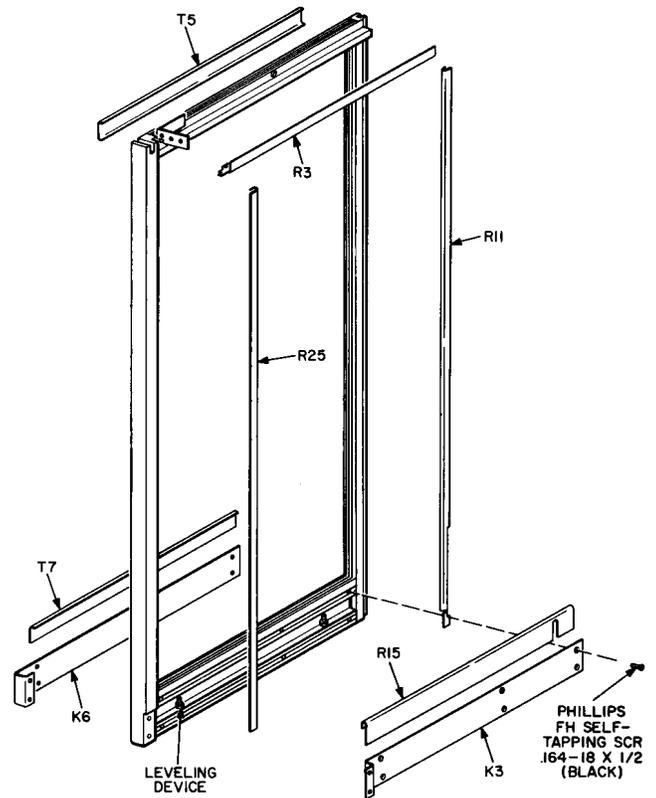

Fig. 15—Partial View of Left Wall
(2) Place List 21 booth to the right of the previous booth and perform operations outlined in 5.05 through 5.09.
(3) Remove R3 retaining strip from top left-inside wall of the booth being installed (Fig. 15).
(4) Fasten booth walls together at top using two 1/4-20 by 1-1/2 hex socket head cap screws and at the bottom using two 1/4-20 by 3/4 hex socket head cap screws. Screws are furnished with List 21 booth.
(5) Install R3 in its original position.
- (1) Remove and retain the following items from the previous existing booth (Fig. 15):
- (3) Repeat 5.30 (3) through (7).
- (4) Repeat 5.21 (4).
- (5) Transfer B-651879 rails from the left wall of the new booth to the wall where the glass panel was removed.
- (6) Install all items retained in (1) on the left wall of the new booth (Fig. 15).